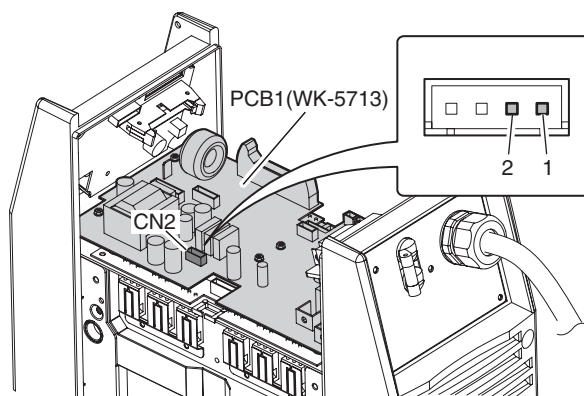

Figure 6-12: Verification of the FAN1
- 1) Verify the condition of the cooling fan, FAN1, using a DC voltmeter. (The capability of the voltmeter should be more than 50VDC.) Using a DC voltmeter, measure between PIN 1 (Positive [+]) and PIN 2 (Negative [-]) of CN11 on PCB3 (WK-5548). The location of connector CN11 of PCB3 is indicated in Figure 6-12. When you measure the above voltage, do not remove the connector. Conduct the measurement while the connector plug and receptacle are still connected.